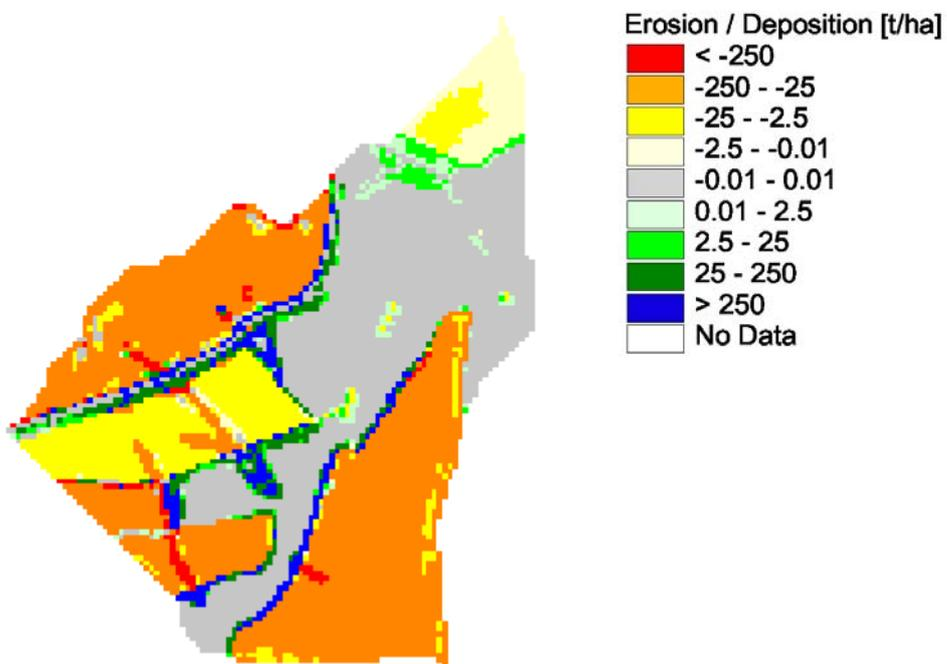

Figure 12: Total sediment budget after long term simulation
- *lts_sedbudget*: a grid containing the erosion/deposition values for each grid cell. A grid map of this file is shown in Figure 12.